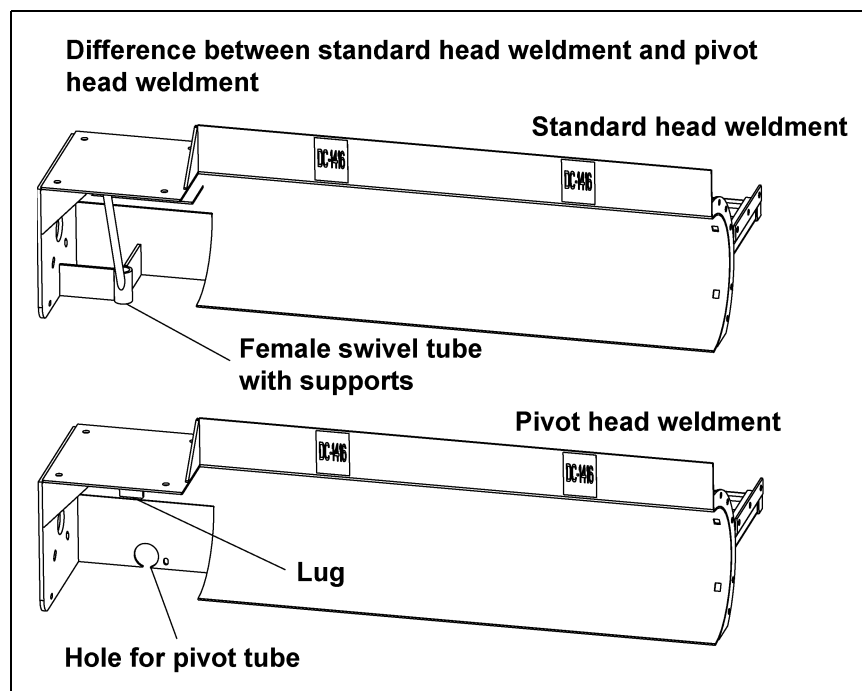

Figure 11B
The following drawing (Figure 11B) is of a 16" pivot sweep head end weldment and a 16" standard sweep head end weldment. There are very few differences between the two. The standard head weldment has the female pivot tube welded to the drive end of the unit. Two (2) plate braces and one (1) pipe brace support this tube. The pivot head weldment has a lug welded to the underside of the motor mount plate. This lug is for attachment of the sweep pivot rod assembly. There is a large hole in the rear plate for the center support tube assembly to pass through. Next to the large hole is a slot that the center support mounts to.